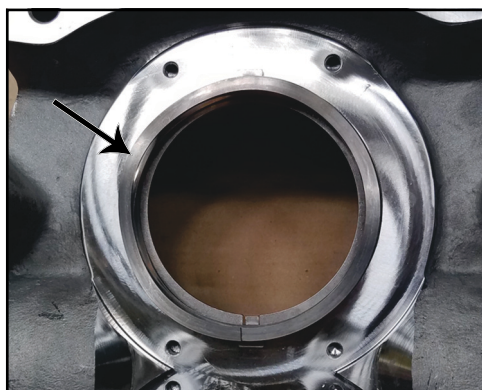

Figure 140 - Wave spring installed
4. Install the wave spring, centering it on the drive ring. Figure 140 shows the wave spring installed.